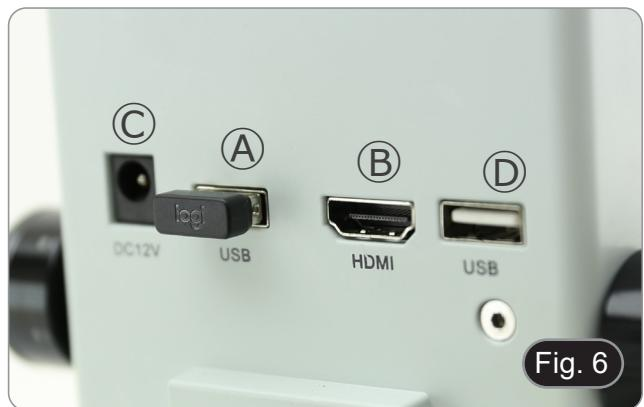

Fig. 6
5. Connect the wireless mouse receiver in the USB port Ⓐ , the HDMI cable in the port Ⓑ and the power supply jack in the connector Ⓒ. (Fig. 6)